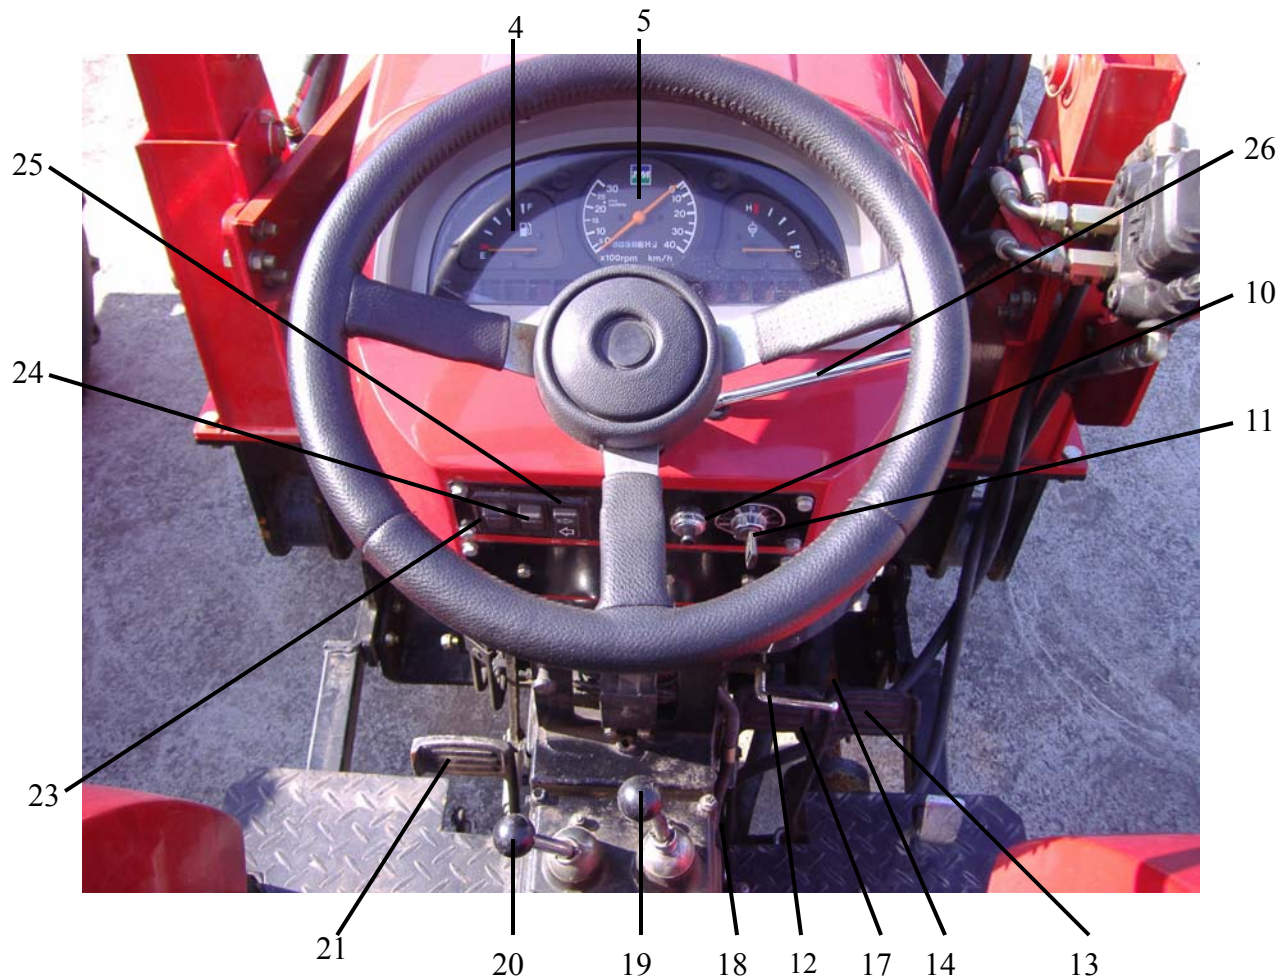
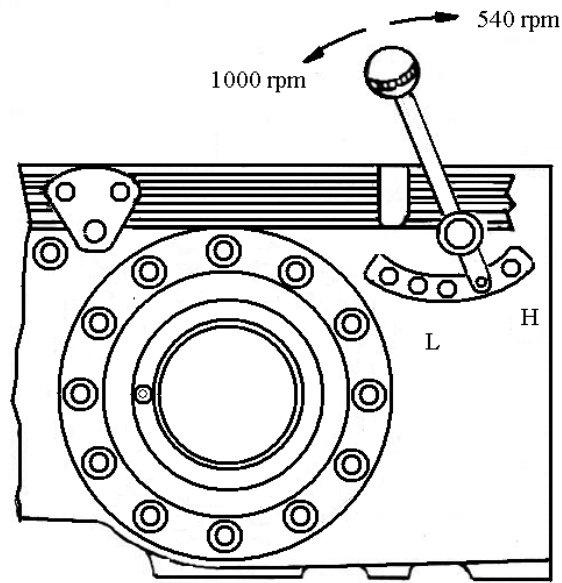

**Fig.4-2 Tractor controls**
Fig.4-3 Control lever of PTO shaft
The controls and the instruments of the tractor are shown in Fig.4-1, Fig.4-2, Fig.4-3
#### 1. Preheating Starting switch 10 (Electricity lock)(Fig.4-2)
#### 4. Hand throttle 26 (Fig.4-2)
#### 5. Shut-off full rod 22 (Fig.4-2)
#### 6. Foot throttle 15 (Fig. 4-2)
#### 7. Decompressing lever 12 (Fig. 4-2)
#### 8. Main and sub-shifting levers 19,20 (Fig. 4-2)
#### 9. Clutch pedal 21(Fig. 4-2)
### 10. Left and right brake pedals 13, 17 (Fig. 4-2)
### 15. Brake lock plate 14 (Fig.4-2)
**16. Brake lock pawl 18 (Fig.4-2)**
**18. Control lever of PTO shaft (Fig.4-3)**
**20. Lifter control handle 16 (Fig.4-3)**
##### 1. Operation and Control of the PTO Shaft (see Fig.4-3)